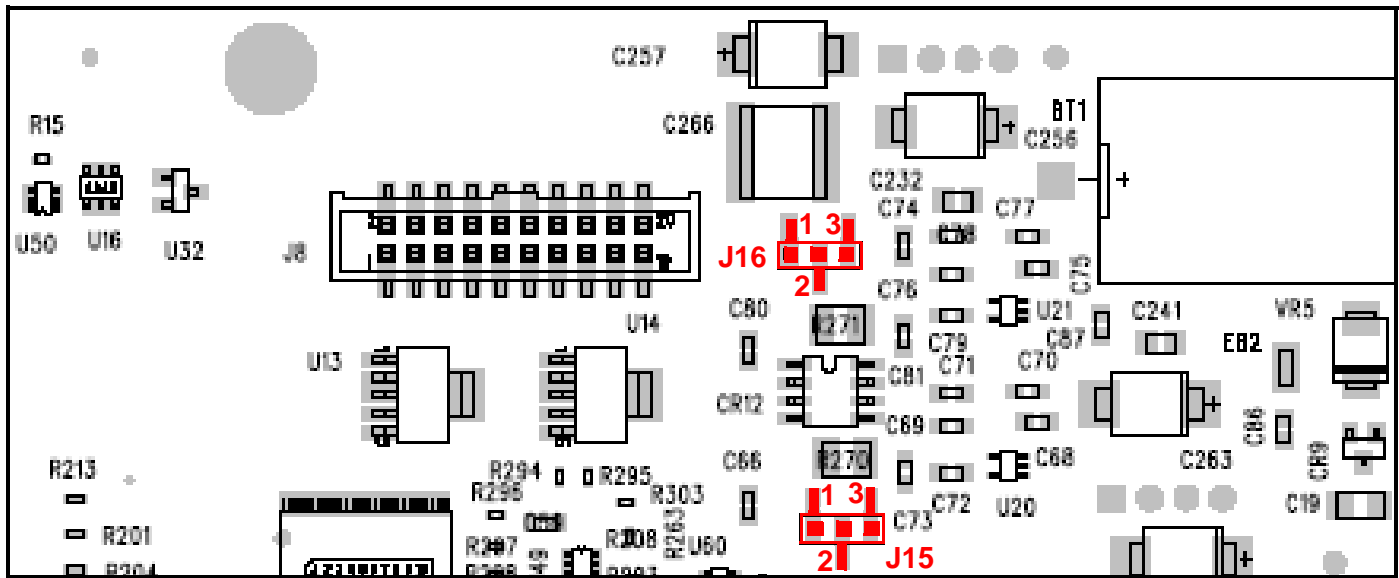

Figure 27: RS-485 Mode Termination - Install Jumpers at J15 and J16, Pins 1 and 2
- Using long-nose pliers, move jumpers J15 and J16 from pins 2 and 3 (default setting from factory) to pins 1 and 2 (see Figure 27 on page 26). J16 is the termination for port 1 and J15 is the termination for port 2. It is also recommended that basic ESD precautions such as grounded wrist straps be used for this procedure.